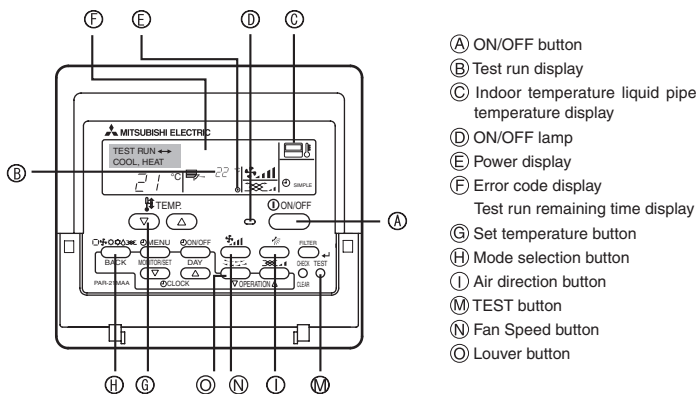

Fig. 7-1
7.2.1. Using wired remote controller (Fig. 7-1)
- ① Turn on the power at least 12 hours before the test run.
- ② Press the [TEST] button twice. ⇒ "TEST RUN" liquid crystal display
- ③ Press the [Mode selection] button and switch to the cooling (or heating) mode. ⇒ Make sure that cold (or warm) wind is blown out.
- ④ Press the [Fan speed] button. ⇒ Make sure that the wind speed is switched.
- ⑤ Press the [Air direction button] or [Louver button]. ⇒ Check operation of the vane or louver.
- ⑥ Check operation of the outdoor unit fan.
- ⑦ Release test run by pressing the [ON/OFF] button. ⇒ Stop
- ⑧ Register a telephone number.